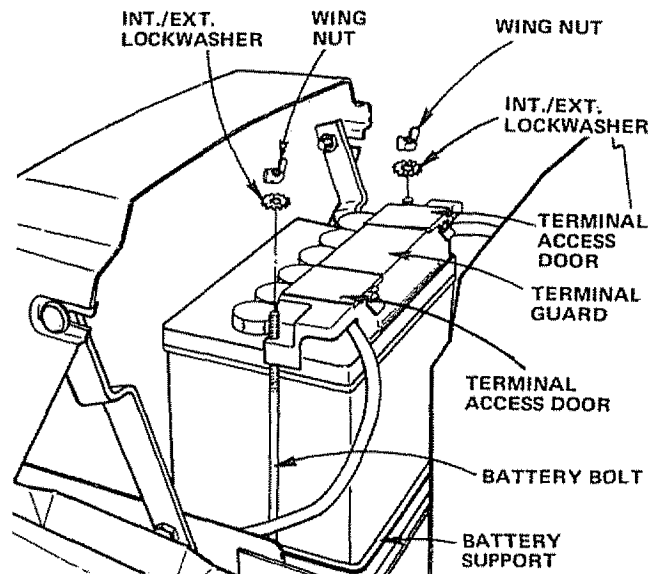

FIGURE 4
- a. Using the square hole on one side of the Battery Support (Fig. 4) insert one Battery Bolt, head of Bolt down. Fasten the Battery Bolt to the Terminal Guard using Int./Ext. Lockwasher and Wing Nut as shown in Fig. 4.
- b. Assemble the remaining Battery Bolt to other side of Battery Support and fasten Terminal Guard to it with remaining Int./Ext. Lockwasher and Wing Nut. Tighten Wing Nuts securely by hand (Fig. 4).
NOTE: USE TERMINAL ACCESS DOORS (FIG. 4) FOR: